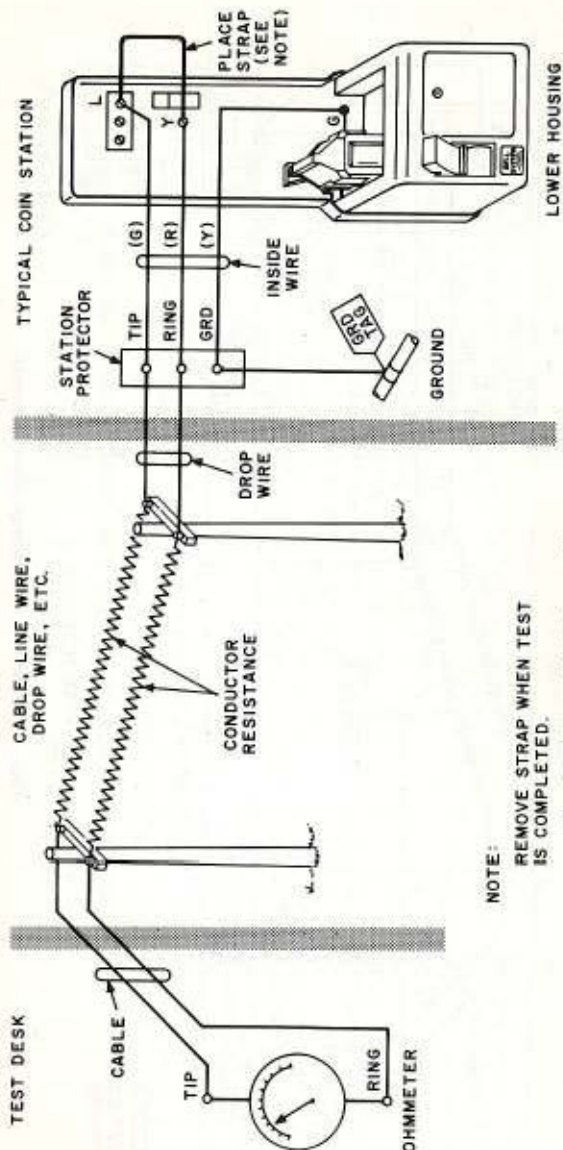

Fig. 3 — Loop Resistance Measurement
- Connections for loop and ground resistance measurements for a typical coin station are shown in Fig. 3 and 4, respectively. See Table C for use of Dial Long Line Equipment.